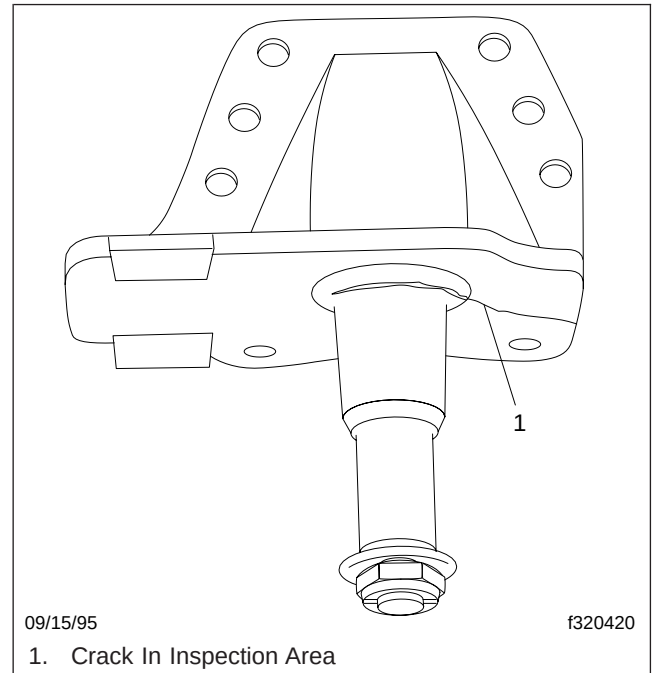

Fig. 9, Hendrickson RS Series Horizontal Mounting Flange
3. Inspect each frame hanger for evidence of cracks in the horizontal mounting flange adjacent to the vertical drive pin area. See **Fig. 9**.